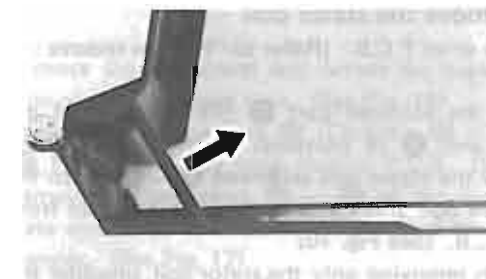

Fig. 6
1. Completely open the upper cabinet, pull the stay toward you and remove it from the damper. (See Fig. 6)
Completely open the upper cabinet and remove the stay from the damper. (See Fig. 6)